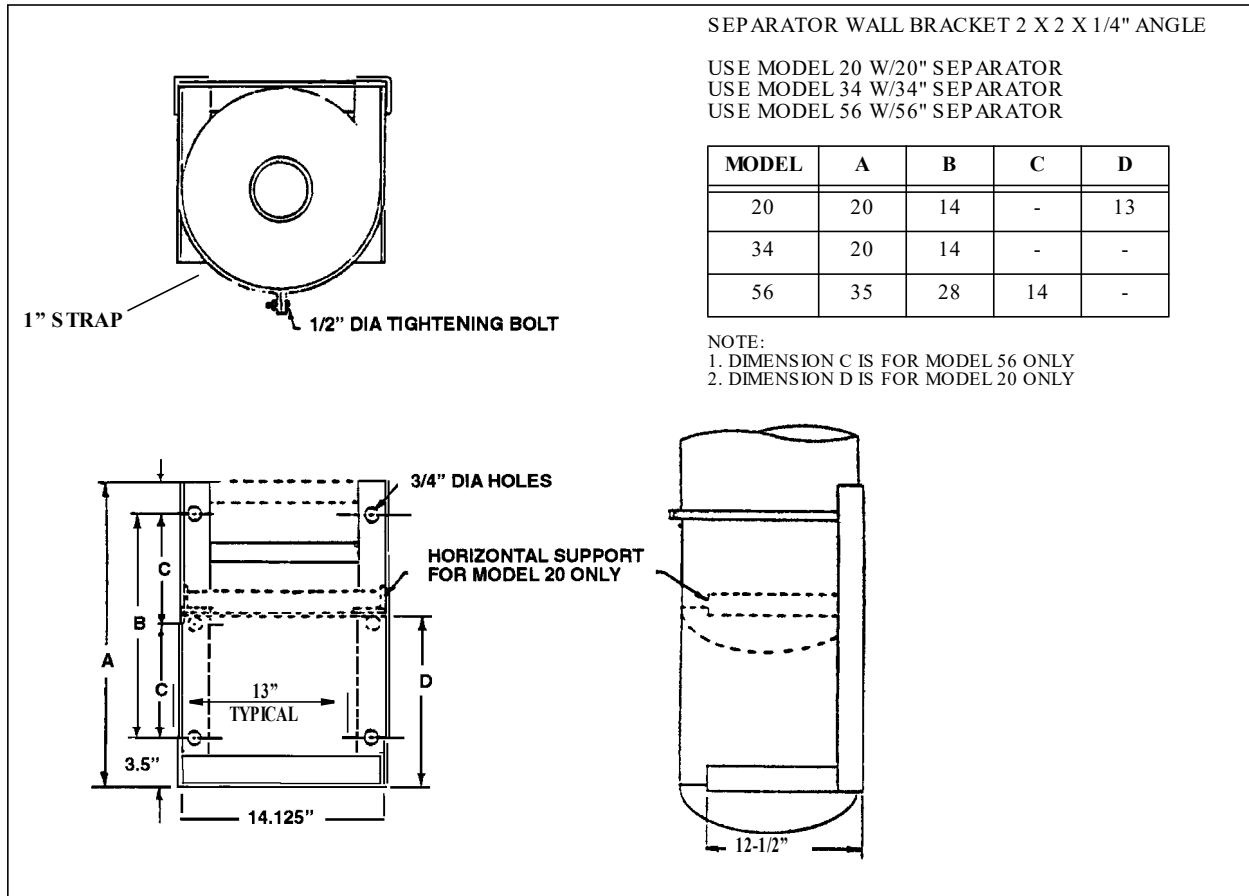

Figure 7. Separator Wall Bracket
- Separator Wall Brackets (Figure 7) - For wall mounting where floor space is limited, or where desired installation is at a level higher than leg height of 18 inches.